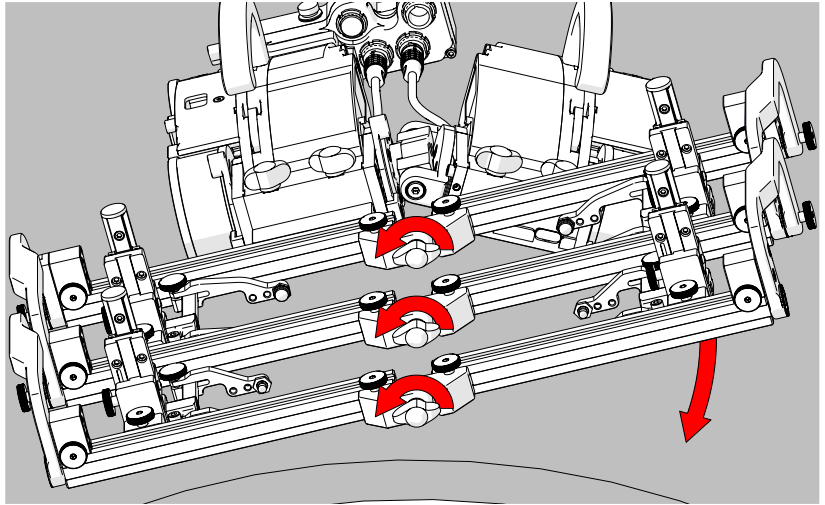

Fig. 247 - Loosen pivot wing knobs
1. Loosen the pivot wing knobs at the centre of the frame system (Fig. 247). Lower the left side of the frame system to align with the tangent of the scan surface. Tighten the pivot wing knobs.